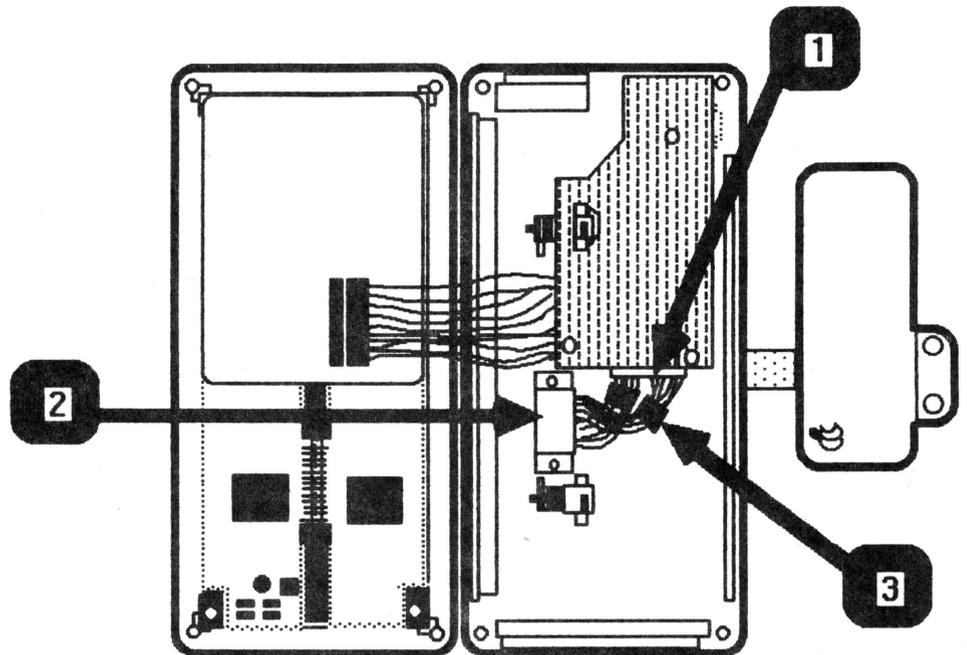

FIGURE 11
4. Disconnect the ribbon cable connector (Figure 11, #1) from the contrast card.
5. Remove the two Phillips screws which secure the ribbon cable clamp (Figure 11, #2) to the Flat Panel Display case. Lift the clamp off the plastic alignment posts.
IMPORTANT: IF THERE ARE TWO TOROID RINGS ON THE RIBBON CABLE AS SHOWN IN THE FIGURE 11, #3, CAREFULLY SQUEEZE THE RINGS (ONE AT A TIME) WITH A PAIR OF PLIERS UNTIL THE RINGS BREAK OFF THE CABLE.